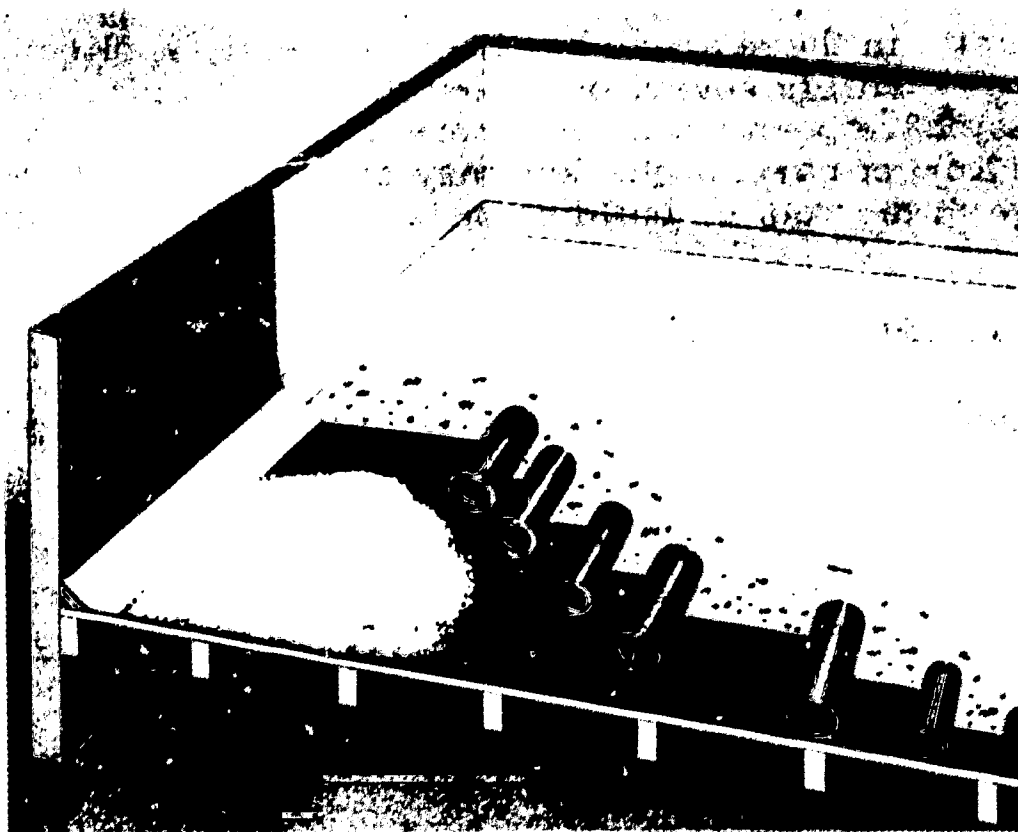

Fig. A-2. Straight 3-ply roof assembly
- Proceed up the incline, lapping each sheet 24- $\frac{2}{3}$  in. leaving 11- $\frac{1}{3}$  in. exposed (Fig. A-2).